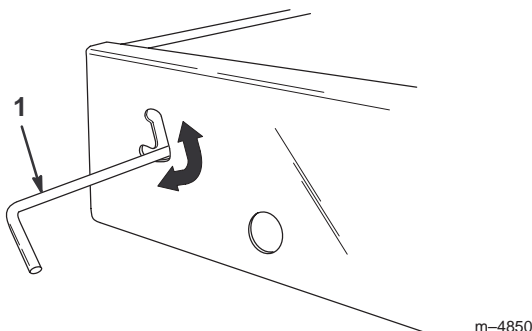

Figure 19
1. Slide the latch upward toward the top of the cutout in the bed frame (Fig. 19).
3. To secure the bed tightly to the bed frame, move the latch to the lower section of the cutout (Fig. 19).